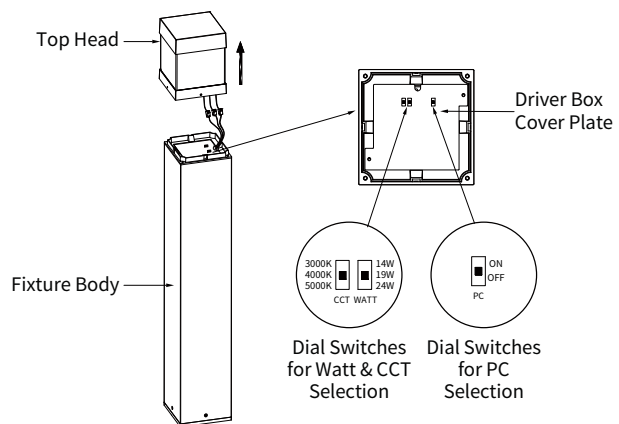

Fig 4
5. Select desired wattage & CCT, select desired PC on/off, through the dial switches on the driver box cover plate. **Fig. 4**